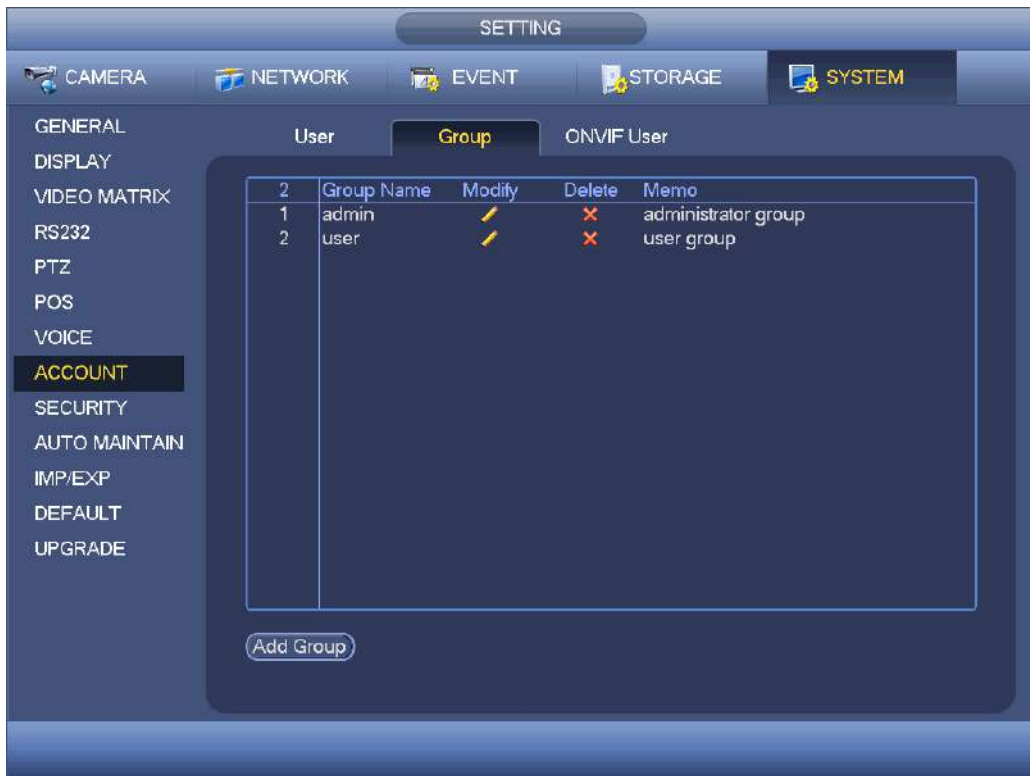

Figure 4-203
Enter add group interface. See Figure 4-203.
- Step 2 Click add group button in Figure 4-203.